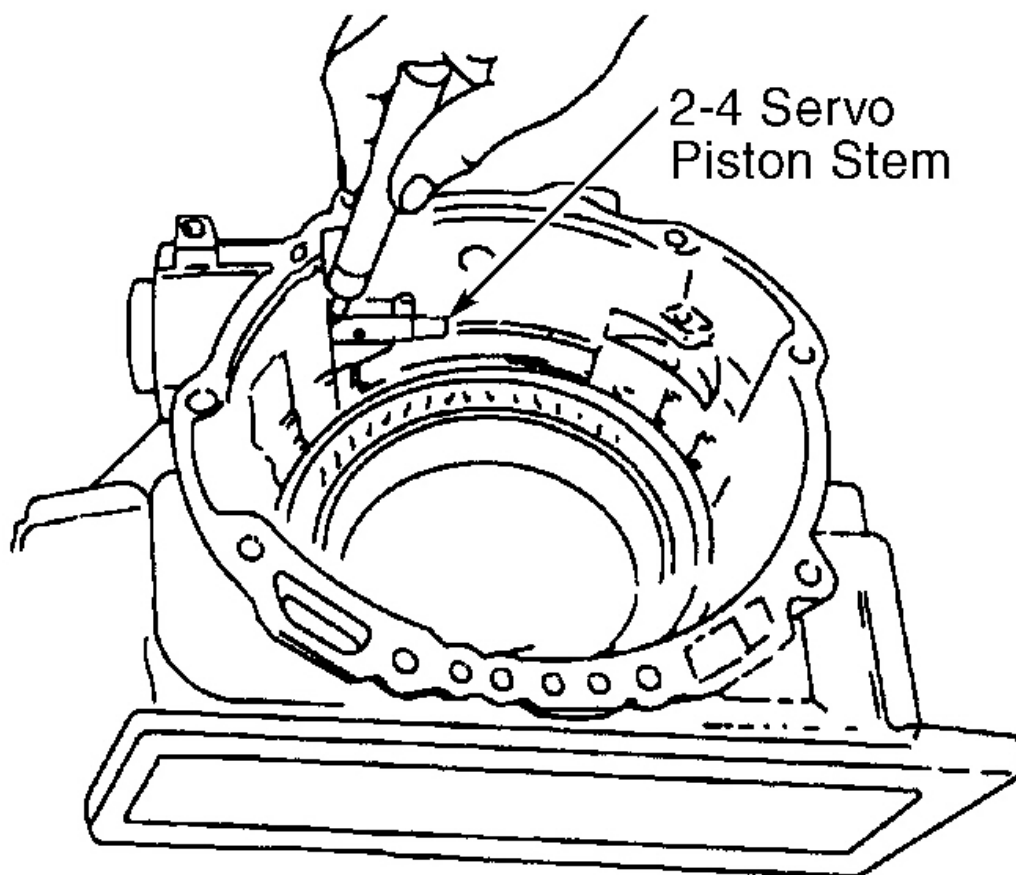

Fig. 42: Measuring 2-4 Servo Travel
13. Install one-way clutch wave washer. Carefully install one-way clutch while turning carrier hub assembly counterclockwise. Install retaining ring. Install 2-4 servo piston, spring, cover and retaining ring. Mark servo piston stem at point that it meets the case. See **Fig. 42**. Apply compressed air to 2-4 band apply port. See **Fig. 17**. With servo piston stem fully extended, measure stroke of servo piston. Servo piston stroke should be .039-.067" (1.00-1.70 mm).